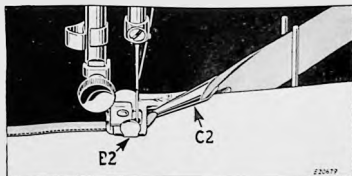

FIG. 46. BINDING WITH UNFOLDED BINDING
**Unfolded or raw edge bias binding** must be inserted in the open end of the scroll. See **Fig. 46**.
Guide the binding by means of the two upright pins, as shown in **Figs. 46** and **48**.
Place the edge to be bound as far to the right as it will go in the center slot of the scroll **C2**, as shown in **Fig. 46**, and draw it back under the binder foot.
To bring the inner edge of the binding closer to the stitching, move the scroll **C2**, **Fig. 46** to the right by means of the lug **B2**, **Fig. 46**. This is the usual adjustment when binding straight edges.